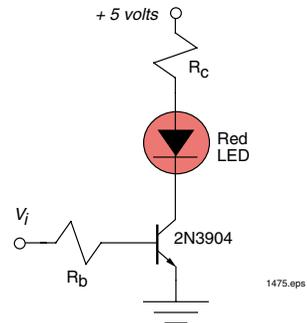
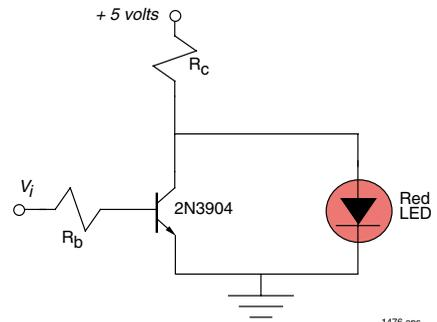

Figure 8.3 Single NPN transistor switching circuit for driving a fiber optic LED.
Figure 8.4 Transistor shunt circuit for driving a fiber optic LED that would reduce power supply current ripple.
A very simple electronic circuit that can be connected to the output of any TTL or CMOS logic gate for driving a LED is shown in **Figure 8.3**. It will drive an LED with up to 50 mA of current, and a frequency of several megahertz.
1. Calculate the resistor value, R_c , needed to permit a current of 20 mA through the LED in **Figure 8.3** when the transistor is saturated. Assume the $V_{ce(sat)} = .2$ volts and the V_f for the LED to be 1.8 volts.
4. Assemble the circuit shown in **Figure 8.3** on your solderless breadboard. Use the pin diagrams found in the **APPENDIX** to identify device connections.
Table 8.1 Measured data taken from the circuit shown in Figure 8.3.
Fiber optic communication systems are often duplex in configuration, and have transmitters and receivers adjacent on a printed circuit board. The on/off current of the LED driver may cause power supply ripples or generate noise that could affect the adjacent receiver. Driving the LED in a push/pull arrangement that shunts the current when the LED is not on can reduce power supply ripple. (This provides a more constant current drain from the power supply.) **Figure 8.4** is a modification of the circuit in **Figure 8.3** that does exactly that.
15. Reconfigure the electrical components on the breadboard to match those with the circuit shown in **Figure 8.4**.
Table 8.2 Measured data on the LED drive circuit shown in Figure 8.4.
Is the measured voltage across the collector of 2N3904 transistor in **Figure 8.3** for the LED "on" and "off" compare to what you expected? Why or why not?
With the LED "on" in **Figure 8.3** calculate the "on" current using the measured data in this activity for $V_{ce(sat)}$ and V_f .
Using the measured rise time from **Table 8.1**, calculate the 3 dB bandwidth for the circuit shown in **Figure 8.3**.
Calculate the average current used by the LED driver in **Figure 8.3**, assuming it is being driven at a 50 percent duty cycle.
Using the measured value for V_f , calculate the current through the LED in **Figure 8.4**.
Calculate the current through the 2N3904 in **Figure 8.4** when it is on and the LED is off.
What is the average current through the circuit shown in **Figure 8.4**, assuming that it is being driven at a 50 percent duty cycle?
Comparing the peak current and average current for the circuits in **Figures 8.3 and 8.4**, which would cause the greatest power supply ripple? By how much?
What is the difference between the circuits in **Figure 8.3 and 8.4**? (HINT: Consider inverted and non-inverted functions.)